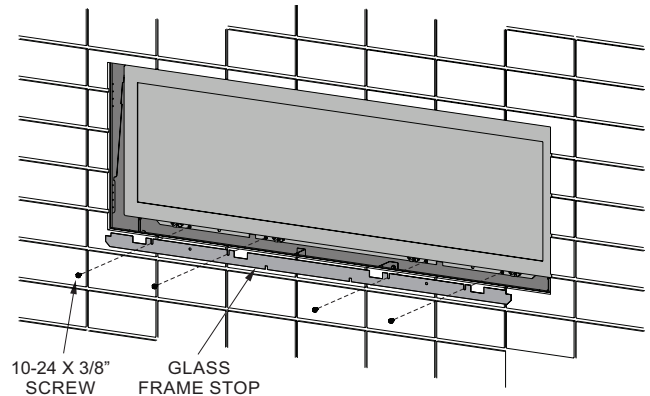

Figure 28
Before the Glass Door can be removed, a Door Limiter Bracket must be removed. Using a 5/16-inch hex nut driver, remove (5) #10-24 x 3/8-inch screws that retain the Limiter Bracket to the bottom flange of the Glass Door frame, and set the bracket aside. **See Figure 28.**